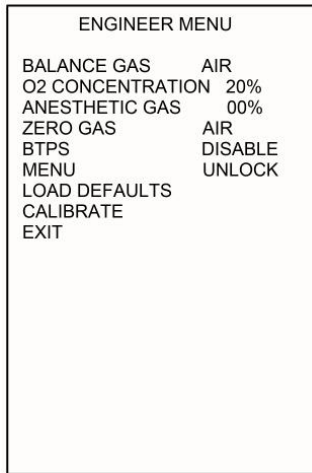

Figure 16
3. Enter the engineer menu (procedure given at Appendix 2, Figure 16), highlight CALIBRATE, long press ENTER button for 8 seconds to enter the next menu.